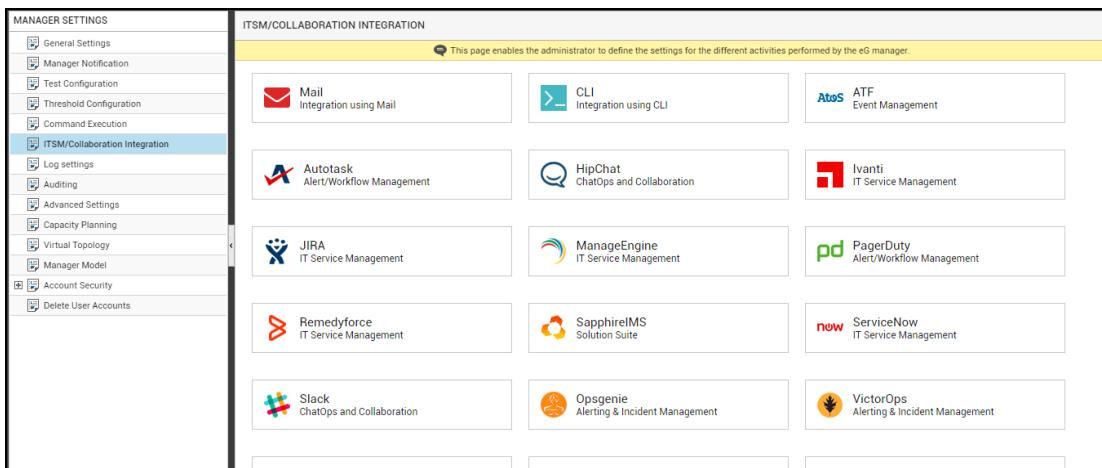
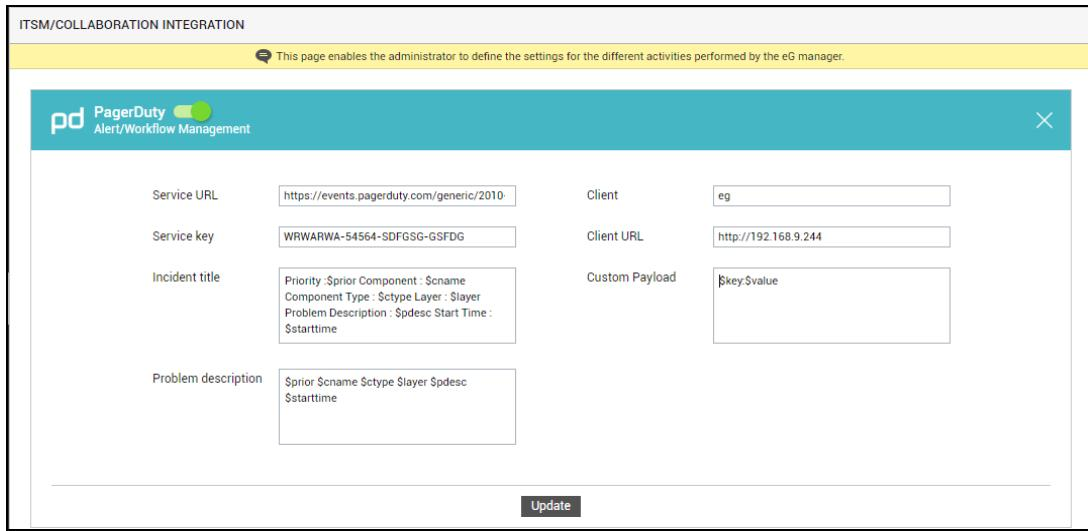

Figure 5.9: Viewing the ITSM/Collaboration tool options
Figure 5.10: Configuring integration with PagerDuty
3. Figure 5.9 will then appear. From the **MANAGER SETTINGS** tree in the left panel of Figure 5.9, select the **ITSM/Collaboration Integration** node. The third-party ITSM/Collaboration tools that eG Enterprise can integrate with will be listed in the right panel.
4. Now, click on the **PagerDuty** option in the right panel (see Figure 5.9). A **PagerDuty** section will now appear in the right panel (see Figure 5.10).
5. To enable integration with PagerDuty, first slide the **PagerDuty** slider in Figure 5.10 to the right.